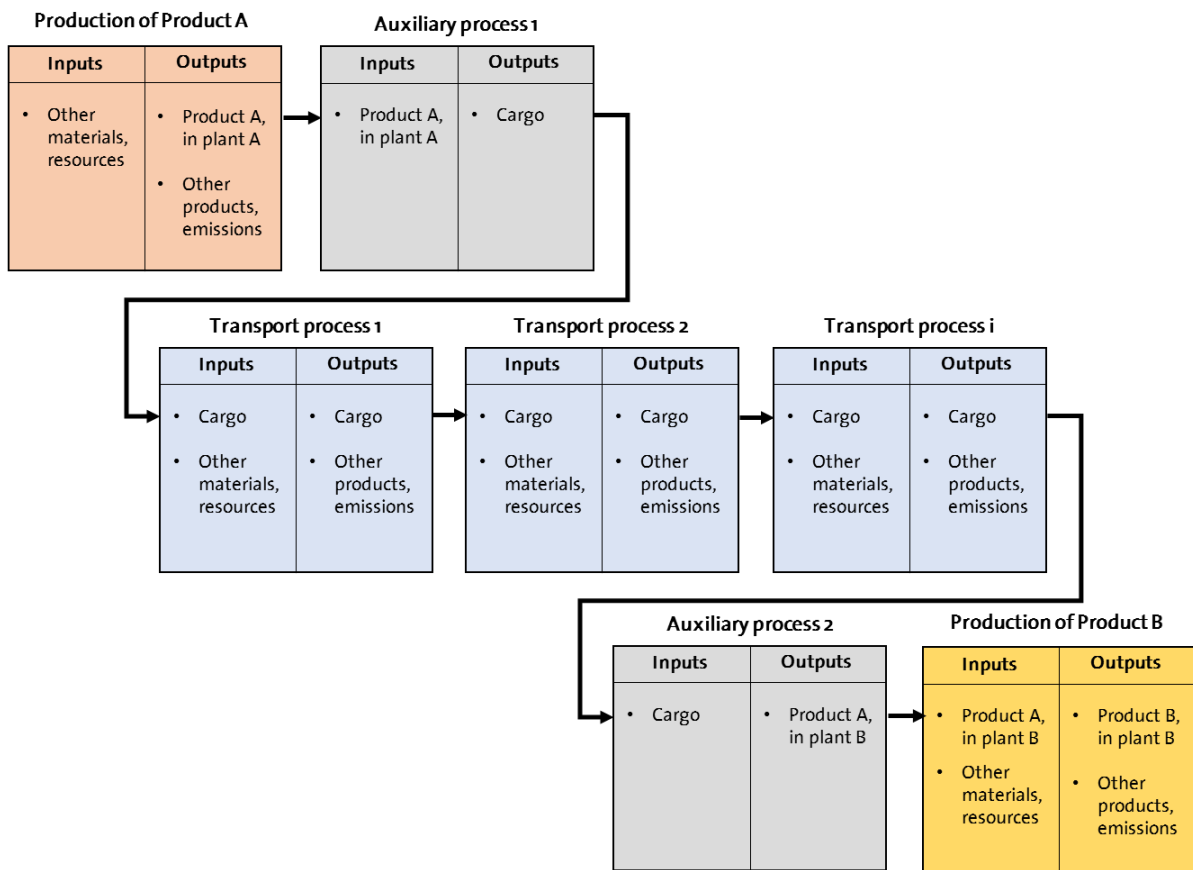

Figure 10. Option 2 suggested for transport modelling using ELCD database in openLCA.
- Option 2: Creation of two auxiliary processes to relate the product with the cargo flow, and vice versa. The new process will contain the flow representing the material to be transported as input and the cargo flow as output, with equal amounts. Likewise, another process with cargo as input and the material at the final destination as output will also be needed (Figure 10).